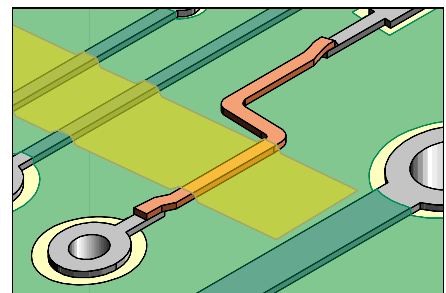

Figure 5: Form the final shape of the Circuit Track then hold in place with tape while soldering.
16. Lap solder the Circuit Track to the remaining circuit on the PC board surface using solder and a soldering iron. Make sure the Circuit Track is properly aligned. (See Figure 5).